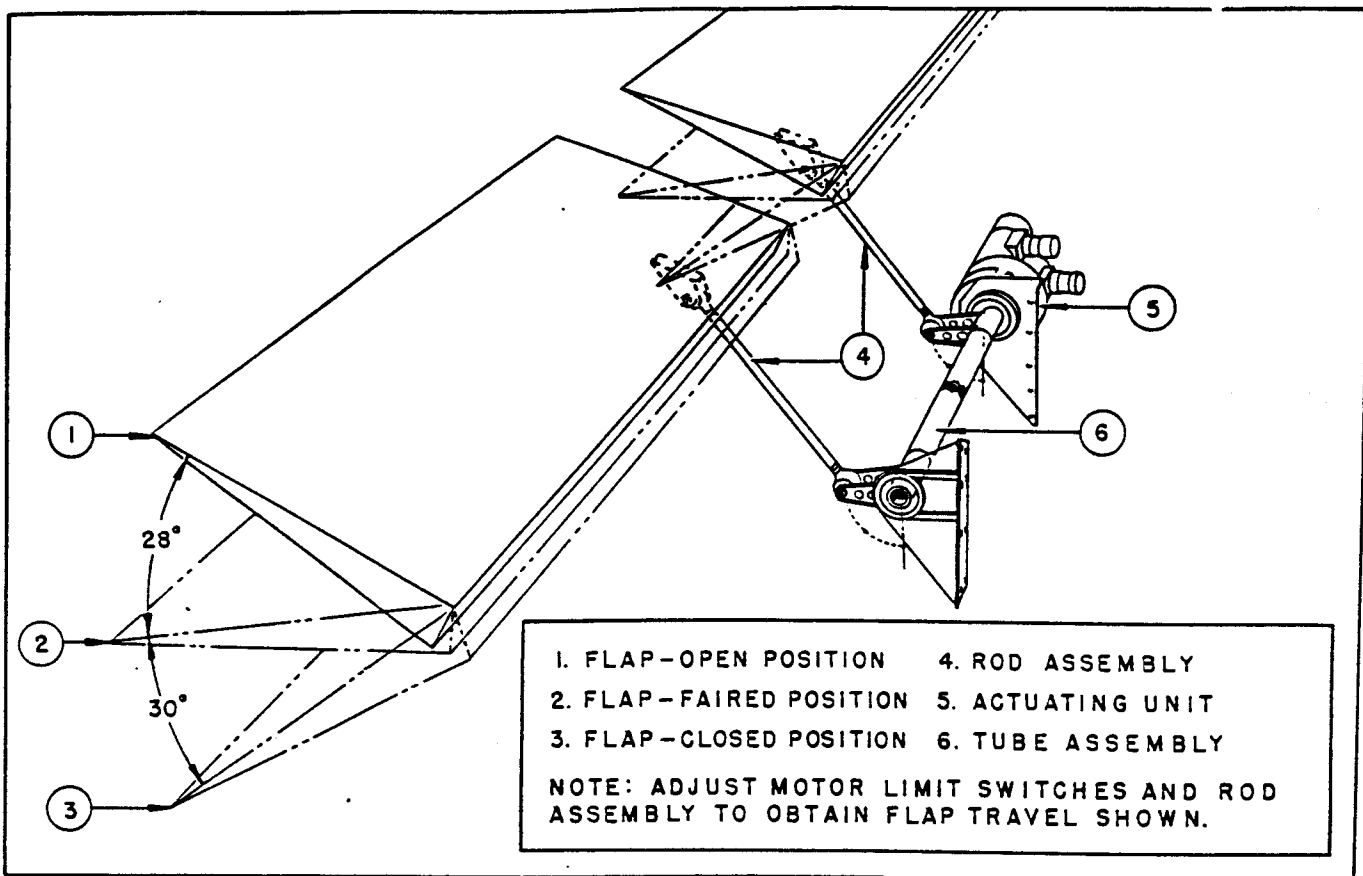

Figure 4. Cooling Flap Mechanism - Inboard Engine
(2) REMOVAL.- Refer to paragraph 13 i (6).
(3) INSTALLATION.- Refer to paragraph 13 j.
f. AIR EXIT FLAPS. (See figures 4,5,6 and 7.)